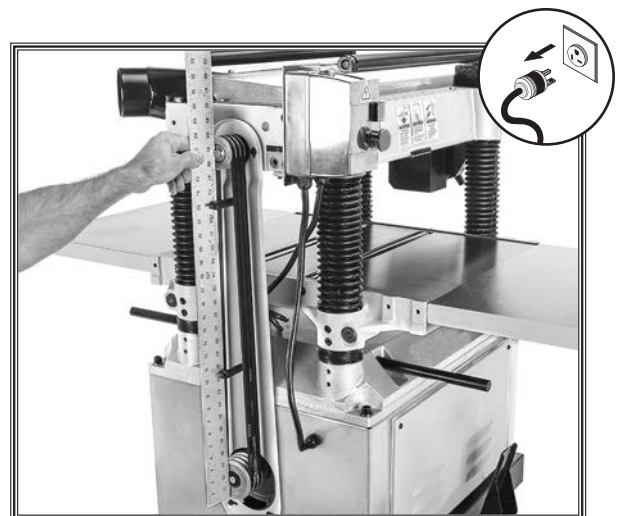

Figure 47. Example of checking pulley alignment.
2. Remove belt cover, then use straightedge to check pulley alignment, as shown in Figure 47.